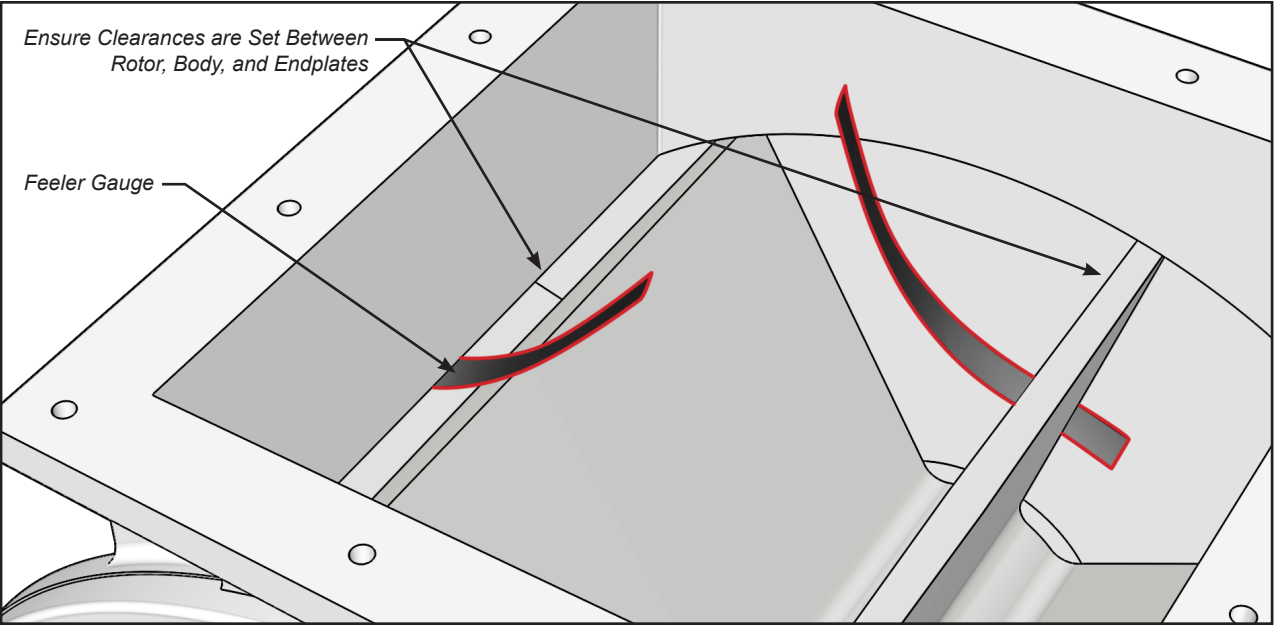

FIGURE 20
- 28. **Measure axial clearance (Figure 20).** Refer to Appendix 10 for clearance information. Extra clearance is acceptable. Not to exceed 0.0079" clearance to comply with NFPA requirements.
- 30. **Verify clearance using feeler gauges that ensure the rotor turns freely (Figure 20).**